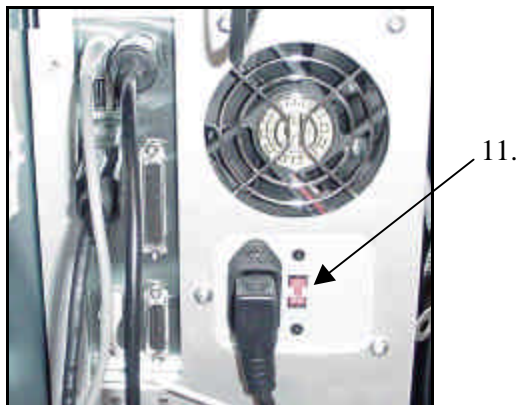

Figure 14: Voltage selector switch
- 11. Ensure that the voltage selector switch on the computer is set to the local operating voltage (115 or 230 VAC) (**Figure 14**).